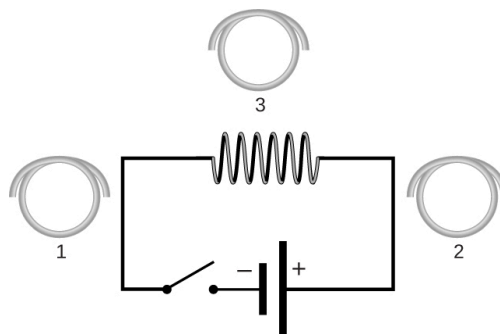

FIGURE 23.55
5. Referring to Figure 23.55, what are the directions of the currents in coils 1, 2, and 3 (assume that the coils are lying in the plane of the circuit): (a) When the switch is first closed? (b) When the switch has been closed for a long time? (c) Just after the switch is opened?